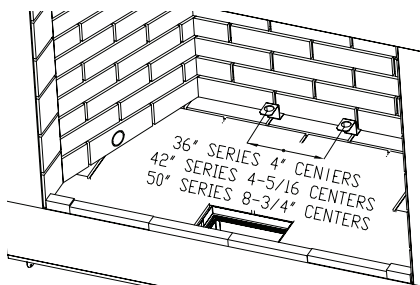

Figure 26 - Installing Grate Retainers
1. Place the provided grate retainers on the hearth as shown in Figure 26. The back of the retainer will be flush with the rear firebrick wall. Mark the center of the hole on the hearth with a marker.